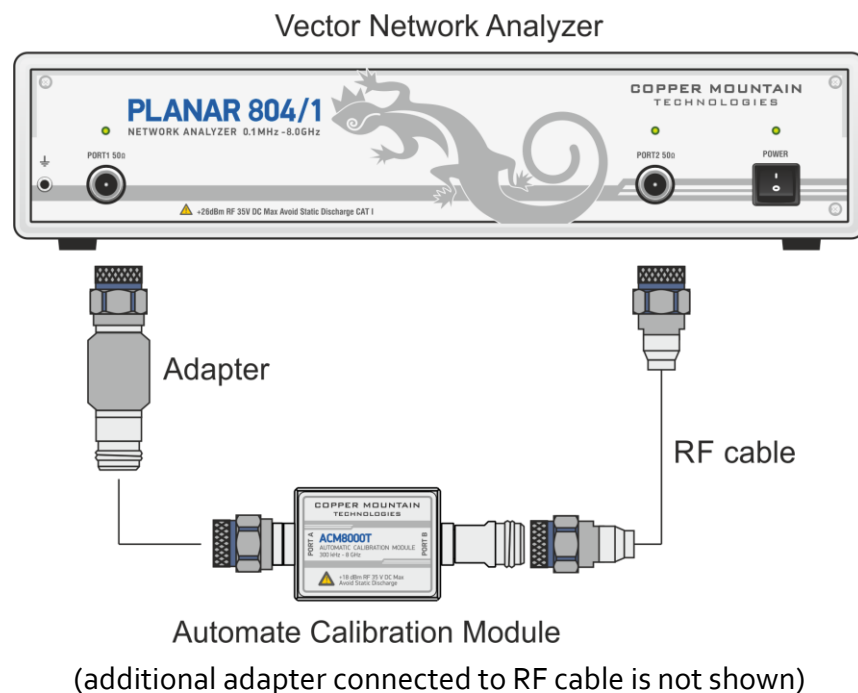
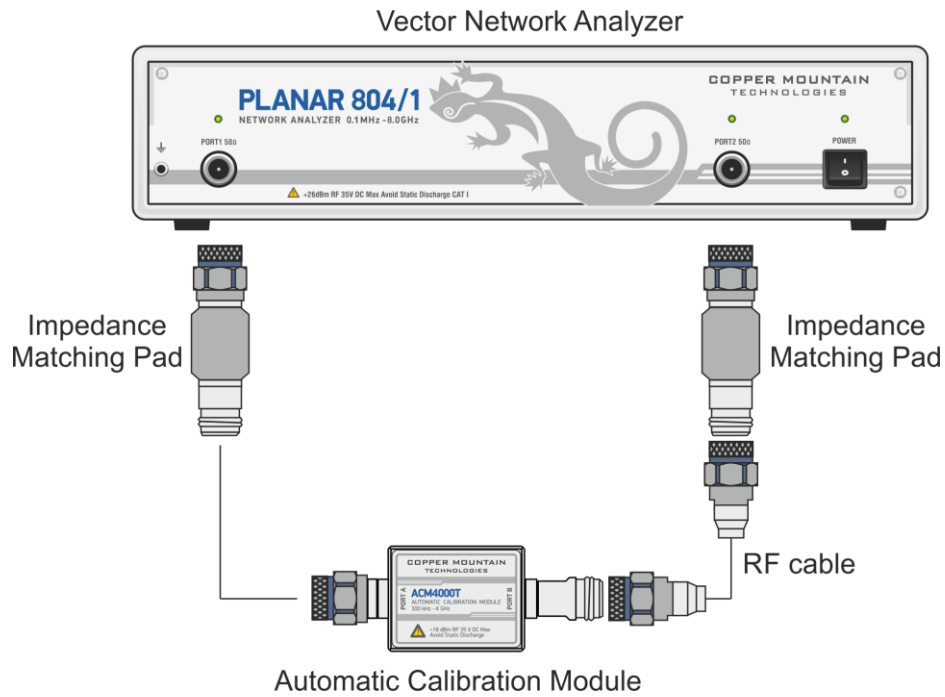

Figure 5. Typical measurement setup for verification of the Module with 50 Ohm connectors
Figure 6. Typical measurement setup for verification of the Module with 75 Ohm connectors
6.3.1.1 Connect the Module to the Analyzer. Refer to the measurement setup in Figure 5 or Figure 6.
6.3.2.2 Disconnect the Module from the Analyzer (refer to the measurement setup in Figure 5 or Figure 6). Go to the Analyzer software. Perform full 2-port calibration with the kit using menu Calibration.